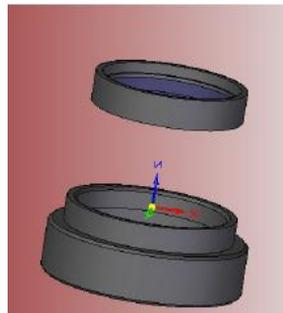

Figure 8 Inserting filter into filter holder
- 4.3.4 With the arrow (indicating the coated side of the filter) pointing upward, place the filter inside the filter holder (Figure 8) and tighten the set screw with supplied allen key